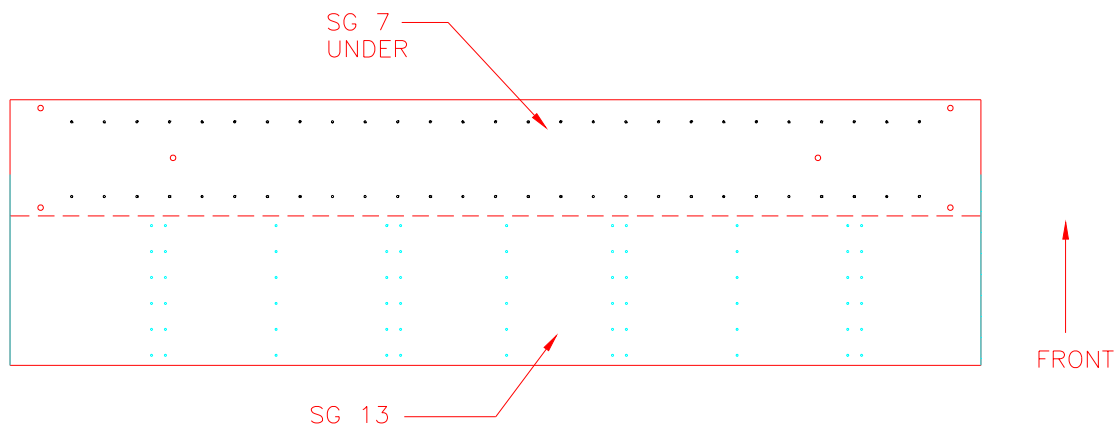

Figure 14.1.4
11) On a table place the SG-7 (43 3/4" x 5 1/4" x .063") under the SG-13 plate so that the top edges are flush to each other. Drill through all carrythrough holes, cleco as you go. Also, carefully transfer the six 1/4" holes through the SG-7 plate. Figure 14.1.4.